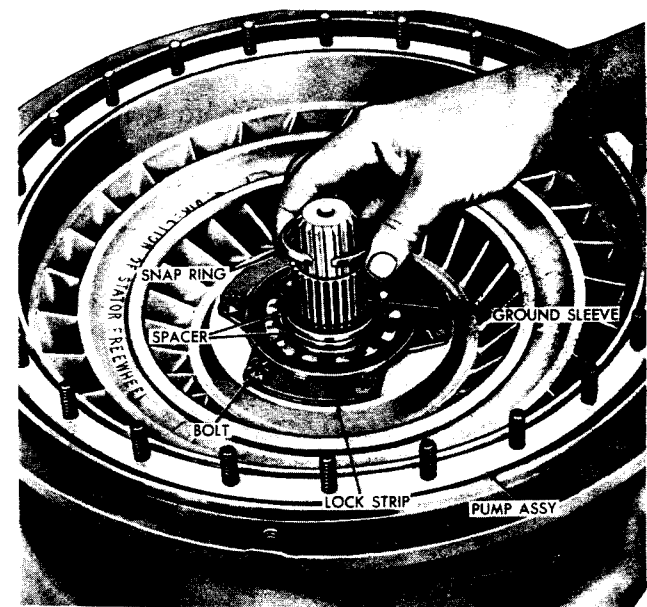

Fig. VII-29. Installing snap ring which retains torque converter pump
(3) Install three retainer plates, three lock strips, and six self-locking bolts. Tighten the bolts and bend the corners of the lock strips against the bolt heads (fig. VII-29).
(4) Install two internal-splined spacers and the snap ring which retains the pump assembly (fig. VII-29).
(5) If the transmission has a "dry" converter housing (see sect. II, para 2c), install the seal ring into the groove near the outer-bolt circle of the pump assembly (fig. VII-29).
(6) Pickup the assembled stator assembly (refer to sect. VI, para 14) and, while holding the fingers on the freewheel roller race, position the assembly, roller race downward.